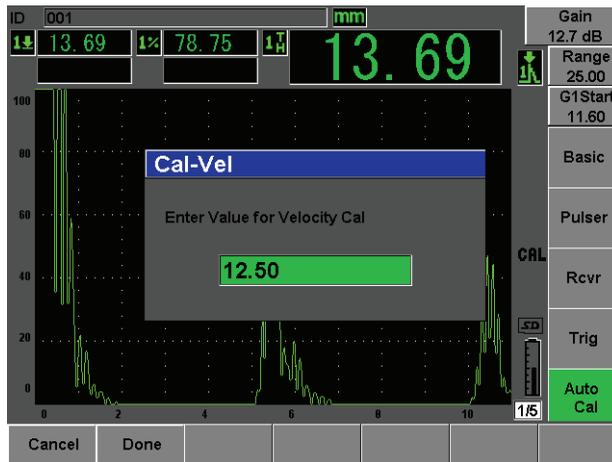

Figure 2-16 The Velocity Cal value
14. Use the knob or arrow keys to adjust the displayed value to the appropriate thickness. For this example, the transducer is coupled to a 12.5 mm step (see Figure 2-16 on page 46).